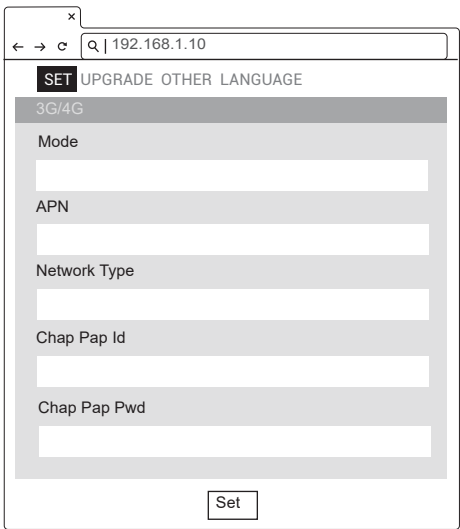

Figure 35. Network Information
5) Fill in the APN, Chap Pap Id, and Chap Pap Pwd information. See Figure 35.